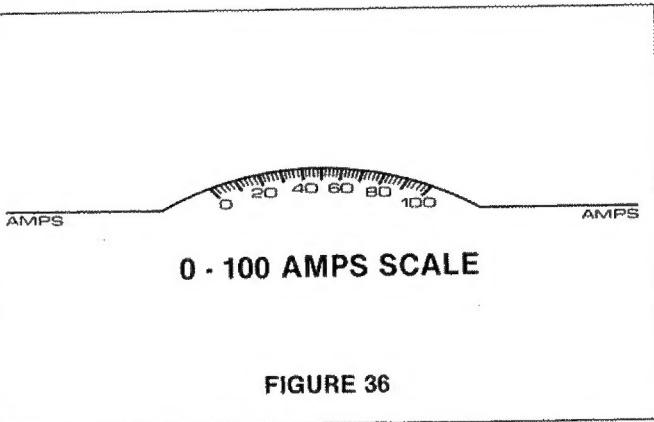
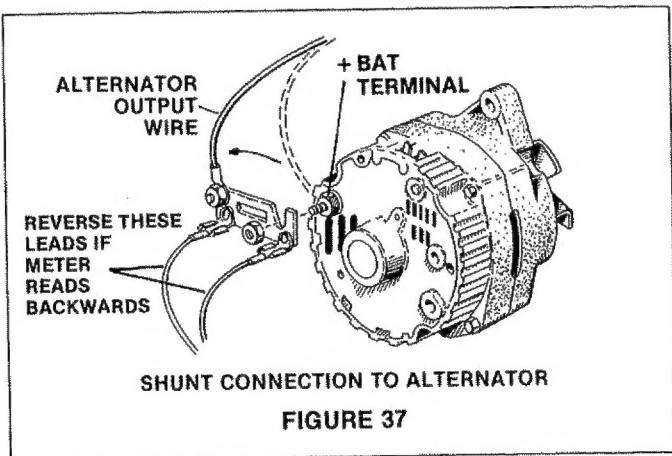

FIGURE 36
FIGURE 37
5. Set the Slide Switch on the TUNE-UP ANALYZER to the AMPS position. Set the FUNCTION SELECTOR Switch to the VOLTS position. When making measurements, observe the test reading on the 0 to 100 AMPS scale as shown in Figure 36. If the meter reads backwards during this test, reverse the leads on the shunt as shown in Figure 37.
8. Consult the service manual for the vehicle being tested for the location of the alternator output terminal, (BAT +) and remove the proper cable from the output terminal as discussed in the service manual. Connect the SHUNT between this cable and the output terminal as shown in Figure 37. Make certain these connections are tight. The slotted side of the SHUNT should be connected to the output (BAT +) terminal of the alternator. Reconnect the Negative (-) cable to the battery that was removed in Step 7.